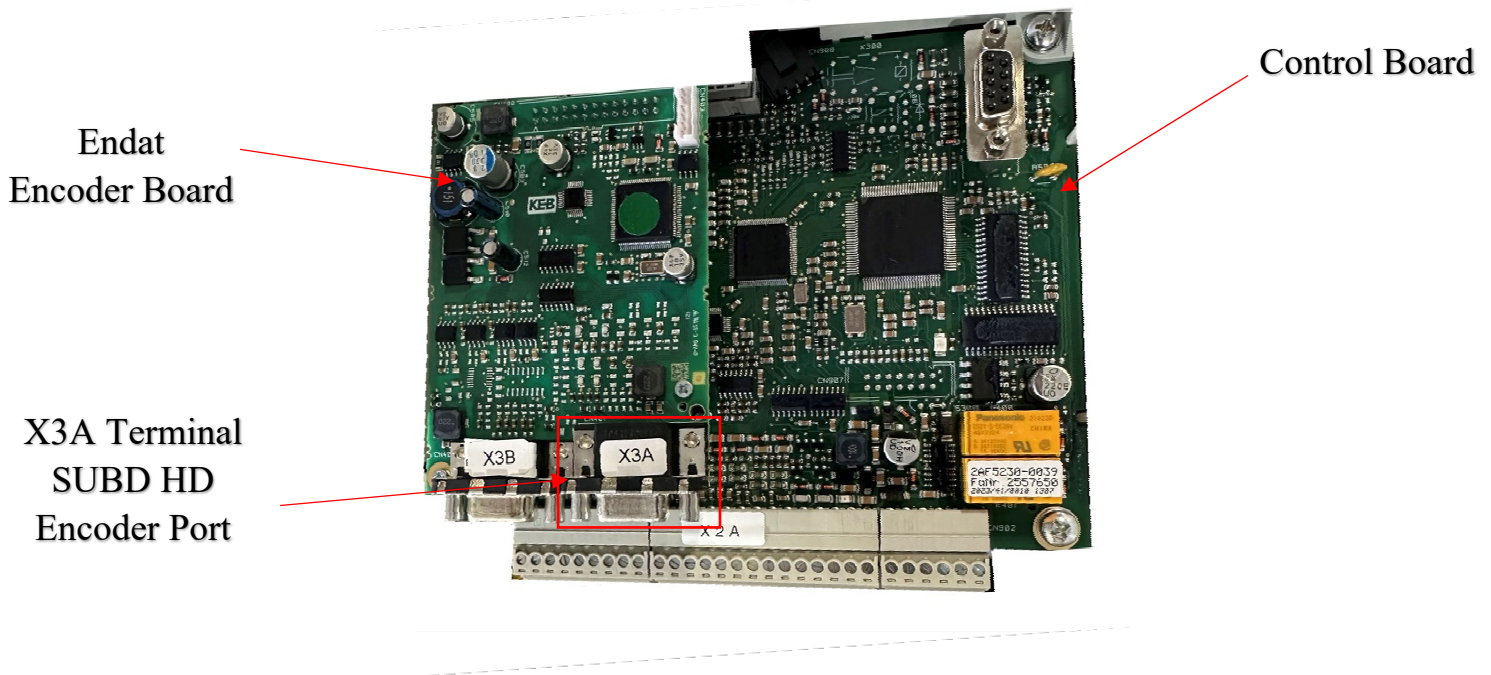

Figure 5: KEB Control Board & Endat SUBD 15 HD
- If using a PM motor, connect the encoder to the X3A SUBD 15 HD plug per Figure 5.